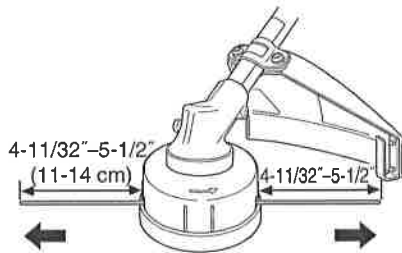

Fig. 26
(7) The initial cutting line length should be approx. $4\text{-}11/32\text{''}$ – $5\text{-}1/2\text{''}$ (11–14 cm) and should be equal on both sides. (Fig. 26)